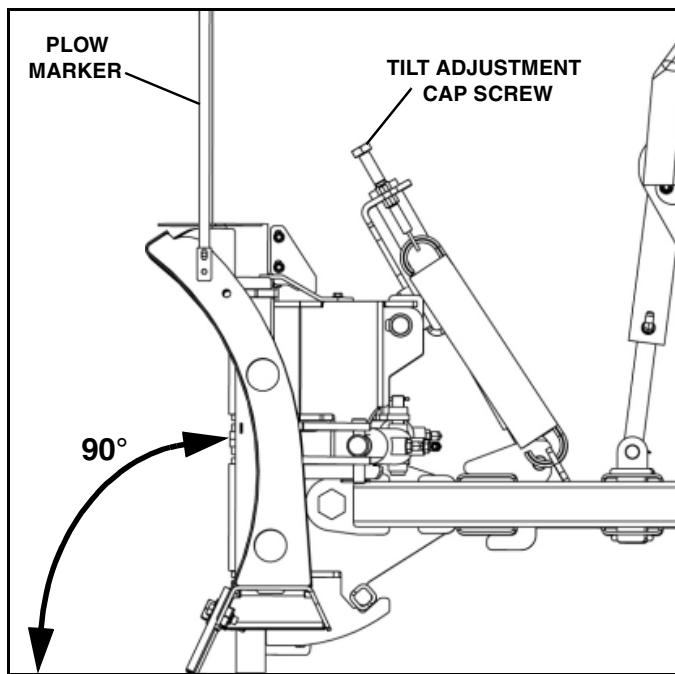

Figure 1-5
2. This plow is equipped with the MaxAdjust™ System (Patent pending). Adjust cap screw as required to position center of moldboard at a 90° angle to the ground. (See Figure 1-5).